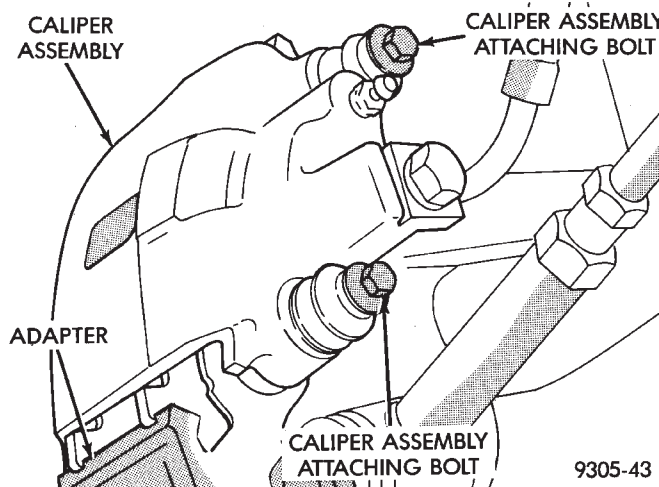

Fig. 1 Removing Caliper Assembly Guide Pin Bolts
(1) Raise vehicle on jackstands or centered on a hoist. See Hoisting in the Lubrication and Maintenance section of this manual.
(2) Remove rear wheel and tire assemblies from vehicle.
(3) Remove the 2 caliper assembly to adapter guide pin bolts (Fig. 1).